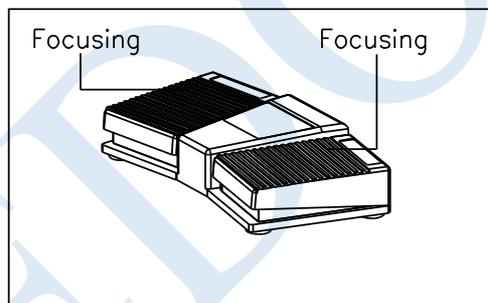

Fig. 3
5.1 Use of foot control switch (Fig. 3) (You can choose manual focus.)
- (2) For fine focusing, step down the left pedal of the foot control switch, the microscope moves down; while step down the right pedal, the microscope moves up (Fig.3).